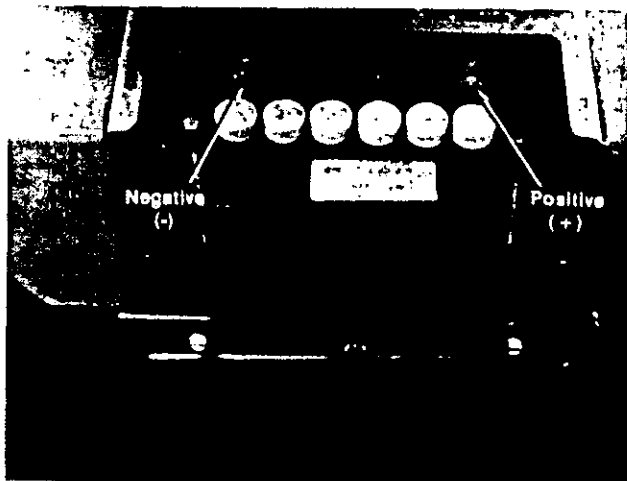

FIGURE 6.
- Place battery in battery case with the terminals to the front of unit. Negative (-) terminal will be on the left hand side of rider. See figure 6.